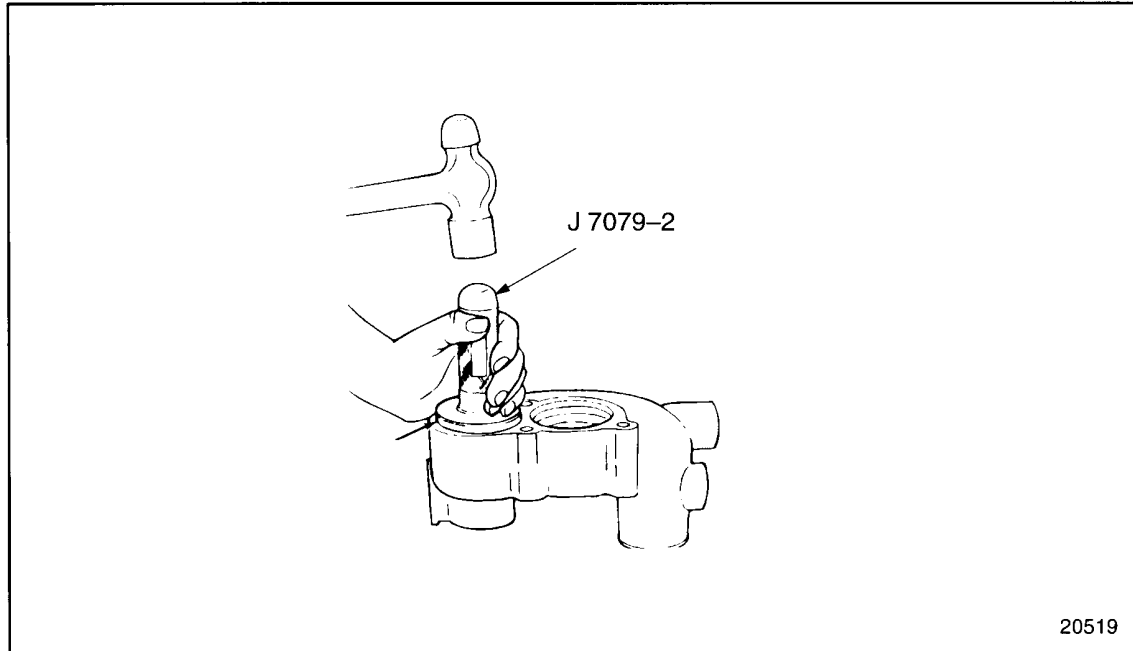

Figure 4-38 **Thermostat Housing Seal Installation**
4. Drive the seal into the bore with a hammer, until the installation tool bottoms on the housing. See Figure 4-38. Rotate the tool during installation to ensure the seal is installed straight. Remove tools J 7079-2 and J 8550.